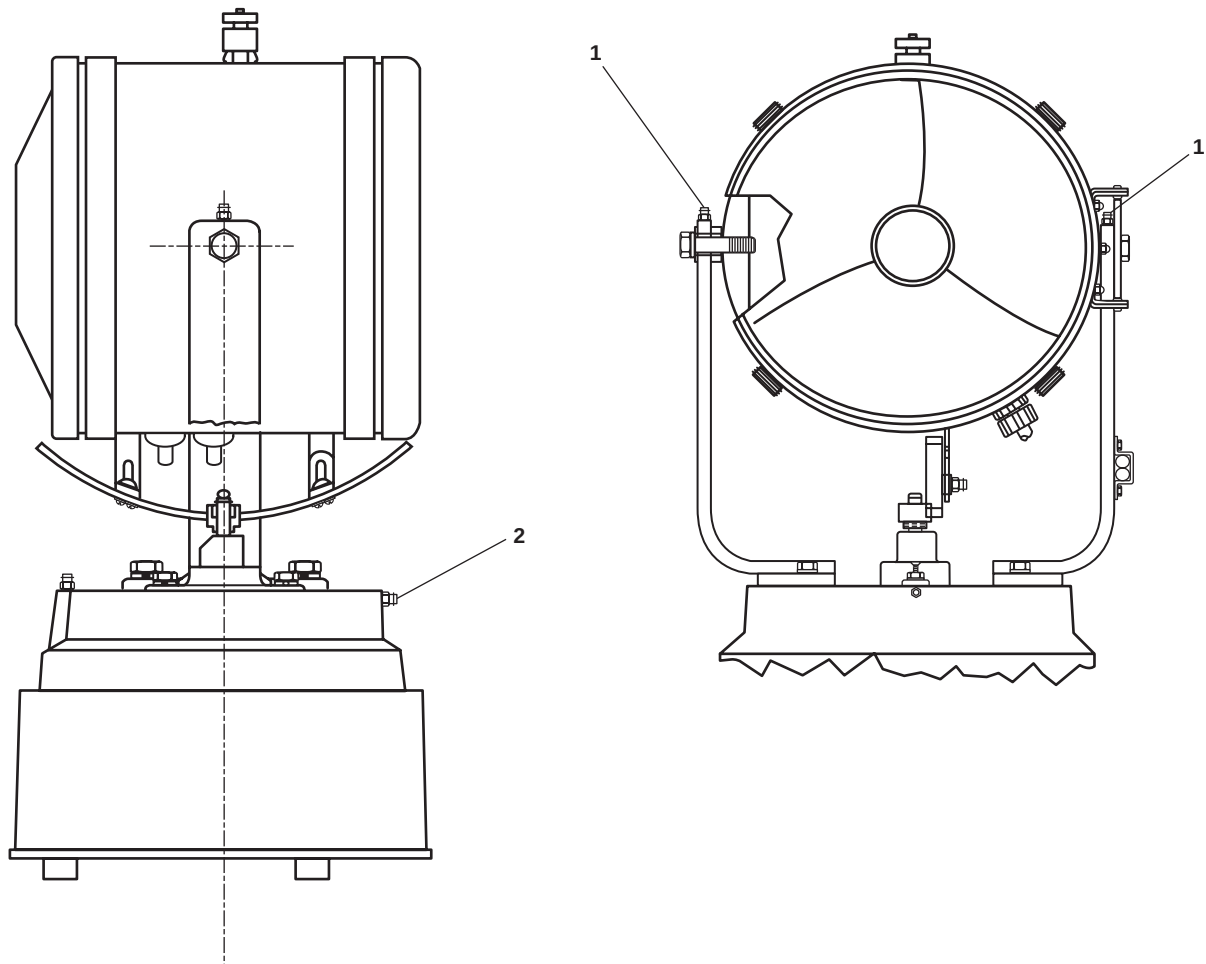

Figure 2. Searchlight Service
Table 1. Lubrication Points (refer to figure 2)
Fitting at top of arms for trunnion bearings (figure 2, item 1)	Approx. 1-2 applications from a standard grease gun
Fitting at edge of rotating base (figure 2, item 2) for bearing balls	Approx. 1-2 applications from a standard grease gun